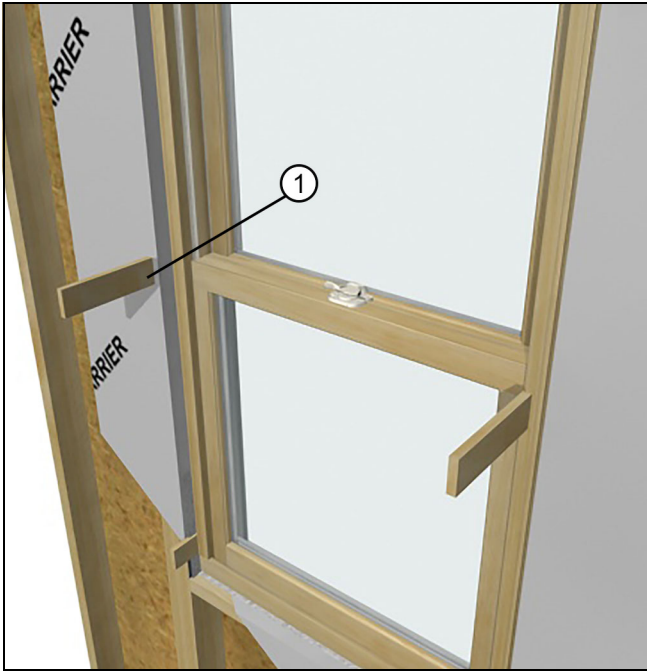

Figure 18 Shim at middle of jamb or check rail
5. Add additional shims 15" (381) intervals on center as well as at every lock point. Always shim at check rails and meeting stiles. See Figure 18.